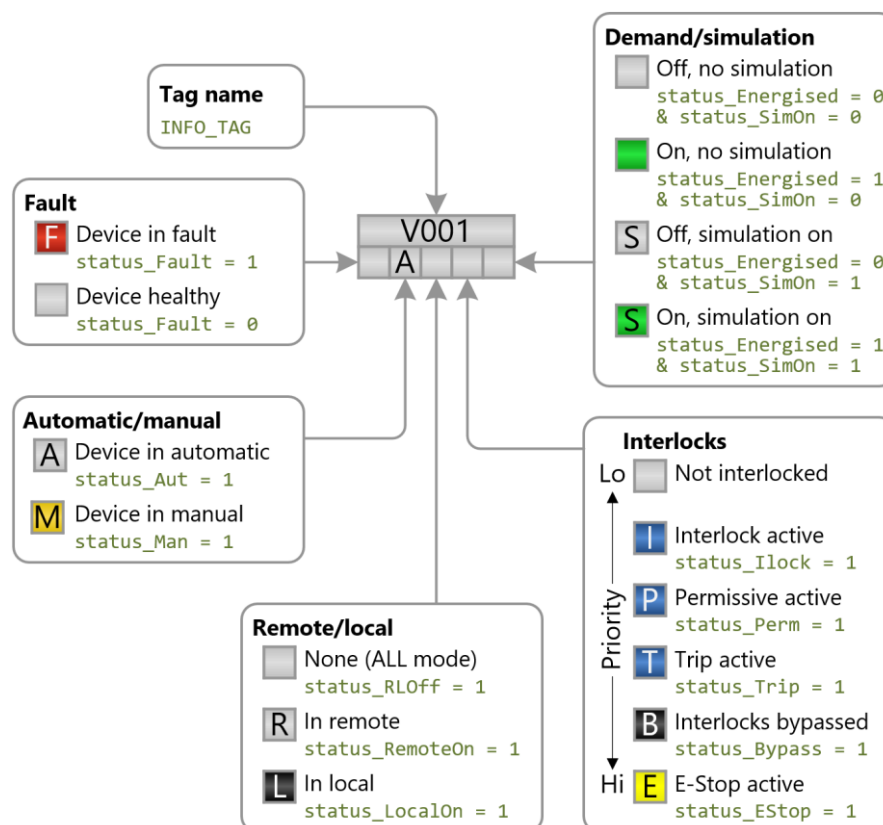

Figure 3.2 FC11001 block icon breakout
- (2) The five grey boxes at the bottom are used to display various status information for the instrument, Figure 3.2 show all the permutations and the signals that drive the various states: